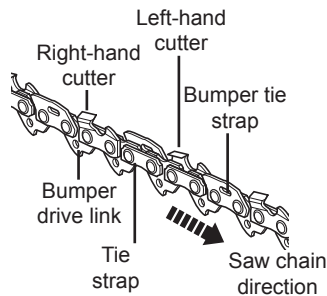

Fig. 47
1. Have the saw chain (20) sharpened professionally at an authorised service centre or sharpen the chain yourself by using a proper sharpening kit. Also observe the sharpening instructions supplied with the sharpening kit.
2. The height difference between the tooth and the ridge is the cutting depth. When sharpening the saw chain (20) you have to consider the following points (Fig. 47).